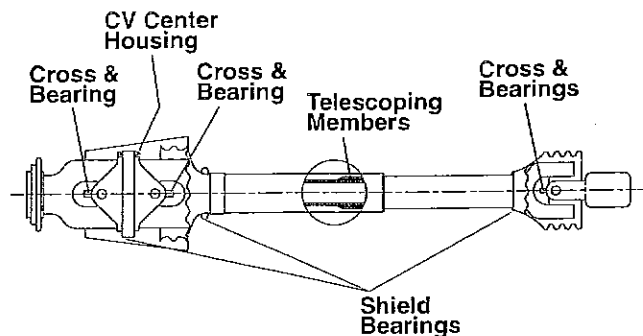

Figure 2.33: Constant Velocity PTO.
*** A. CV PTO - (See Figure 2.33)** A high quality general-purpose grease may be used; however, a lithium based grease is recommended. *Lubricate every 8 hours of operation.*
1. Cross and Bearings (3), until grease is purged around the seal (2-4 pumps).
2. CV Center Housing (1), until grease is evident around the center section disk (6-12 pumps).
3. Telescoping Members (1) until grease fills the telescoping area. Disassemble occasionally to ensure components are adequately greased (4-8 pumps).